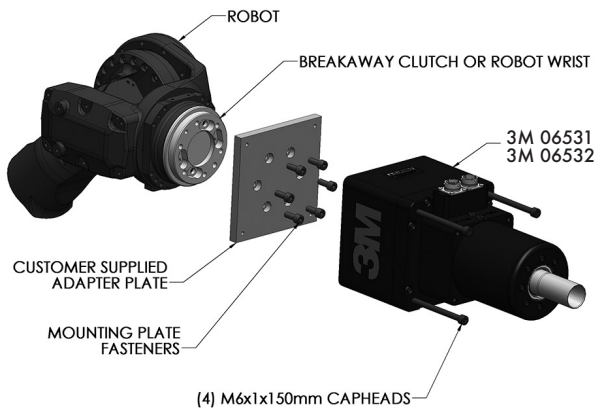

Figure 3. Spindle Motor Direct Mounting
To mount the tool, first attach the customer supplied Mounting Plate to the Robot Mounting Flange or to the Breakaway Clutch, per the manufacturer's specifications. Once the Mounting Plate is secured, place the tool against the Mounting Plate and install four (4) M6x1x145mm Socket Head Cap Screws. (See Figure 3.) Tighten the fasteners to the torque specified in the Technical Specifications Section.